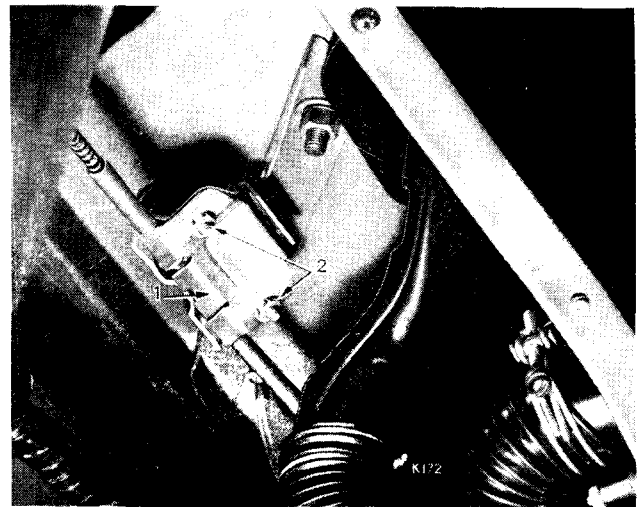

Fig. 81. Windscreen wiper wheelbox
To Remove—Wheelbox, Passengers' side (Fig. 81)
Release the wheelbox outer casing (1) from the wheelbox main body by removing two nuts (2) (Fig. 81). Support the drive cable and wheelbox tubing in a convenient position and withdraw the wheelbox main body.
Release the wheelbox outer casing (1) from the wheelbox body by removing two nuts (2) (Fig. 81).